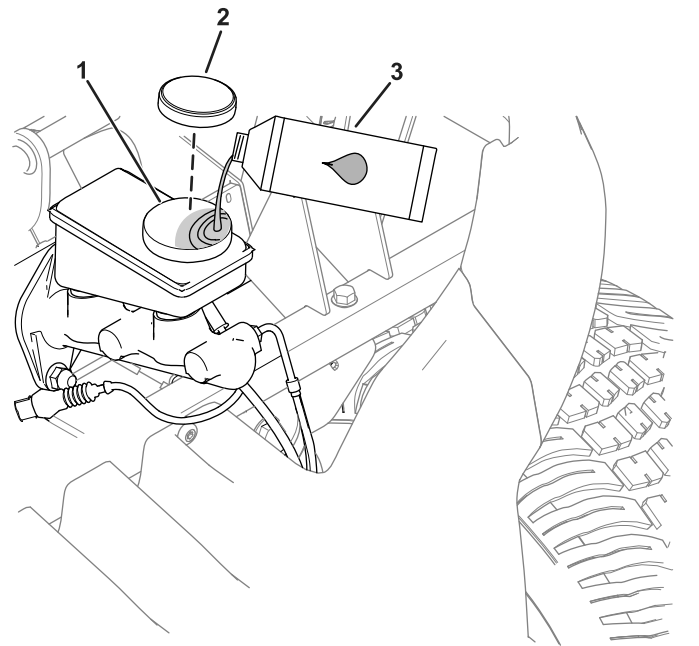

Figure 44
- Remove the hood to access to the master brake cylinder and reservoir (Figure 44).
- A. Clean the area around the reservoir cap and remove the cap (Figure 44).
- C. Install the reservoir cap (Figure 44).